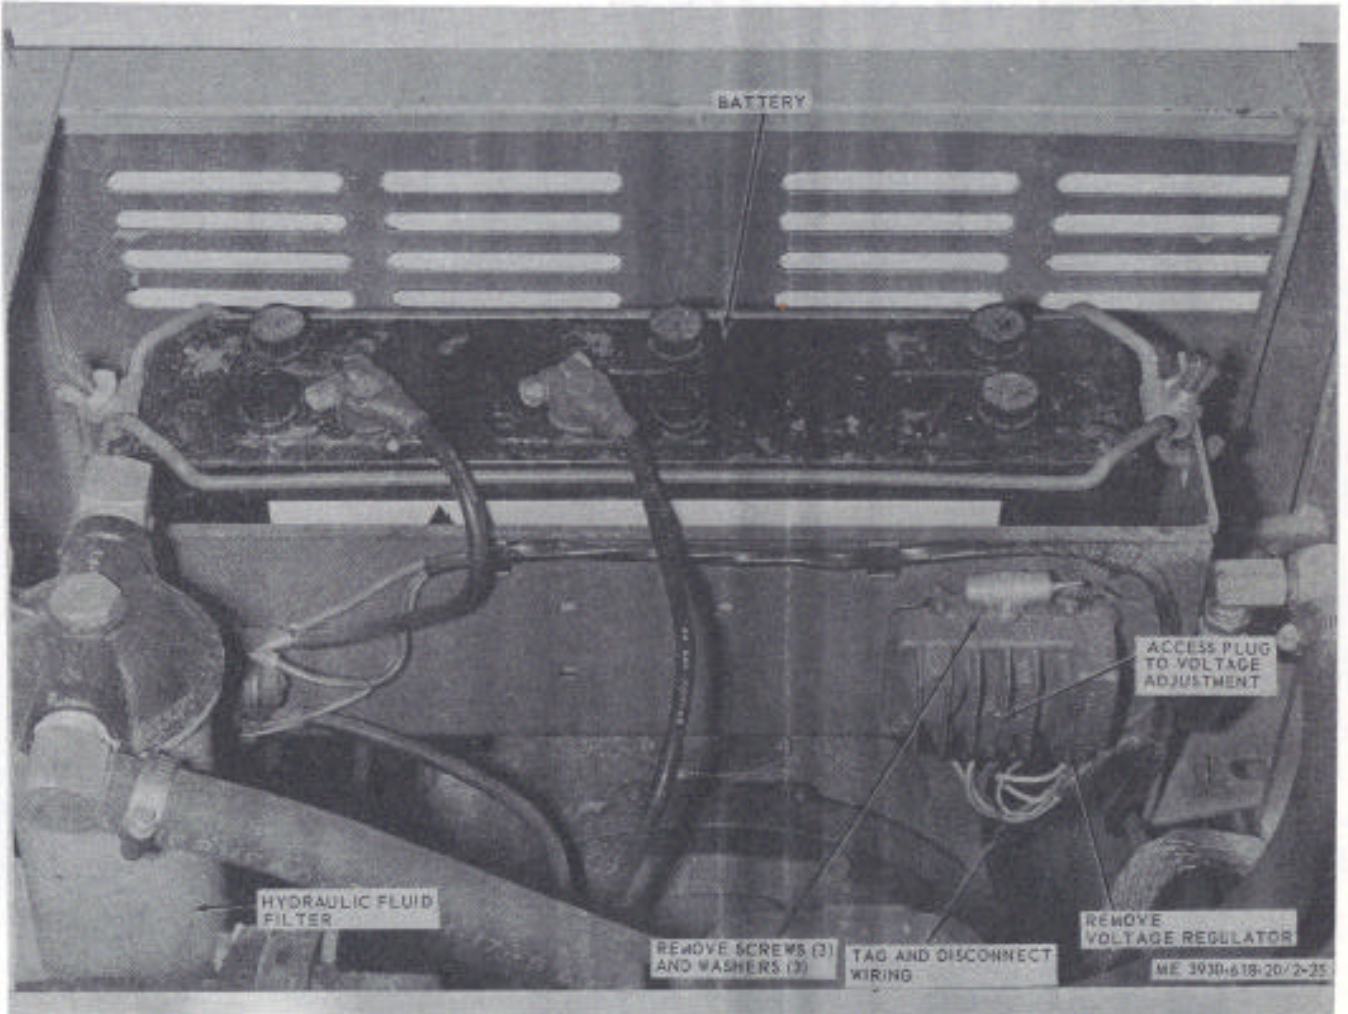

Figure 2-25. Voltage regulator, installed over.
(1) If the battery uses too much water at the "normal" setting, reduce the voltage setting approximately 0.3 volt and check for decreased battery water usage over a reasonable period. If necessary, repeat the process until the battery remains charged with a minimum use of water.
(2) If the battery is consistently undercharged (evidenced by inability to crank the engine) at the normal setting, increase the voltage setting 0.3 volts and check for improved condition over a reasonable service period. If necessary, repeat this process until the battery remains charged with a minimum use of water. The external adjustment type regulator has positive stops on the adjusting mechanism that will prohibit excessive high and low settings. To adjust the voltage regulator setting of the external adjustment type regulator, remove the access plug from the regulator. Then for an undercharged battery insert screwdriver into slot and turn clockwise one notch (0.3 volt) to increase the setting. For an overcharged battery, turn counterclockwise one notch (0.3 volt) to decrease setting. Reference figure 2-25. Check for an improved battery condition over a service period of reasonable length. If necessary repeat the above procedure for a higher or lower setting.
c. *Removal.* Refer to figure 2-25 and remove voltage regulator as follows:
(1) Disconnect and tag electrical leads.
(2) Remove the screws and washers securing the regulator to its mounting plate and remove the regulator.